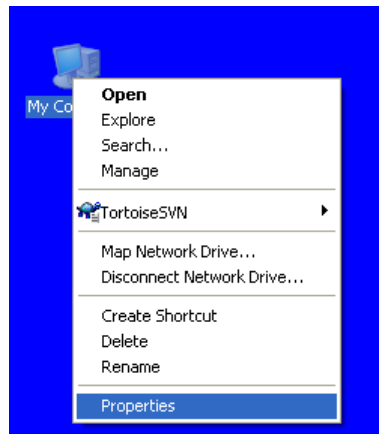

Figure 2.1-15 Launching the System Properties dialog box in the My computer context menu
1. Open the **System Properties** window by right-clicking on **My computer** icon on the desktop and select **Properties** in the contextual menu (Figure 2.1-15).